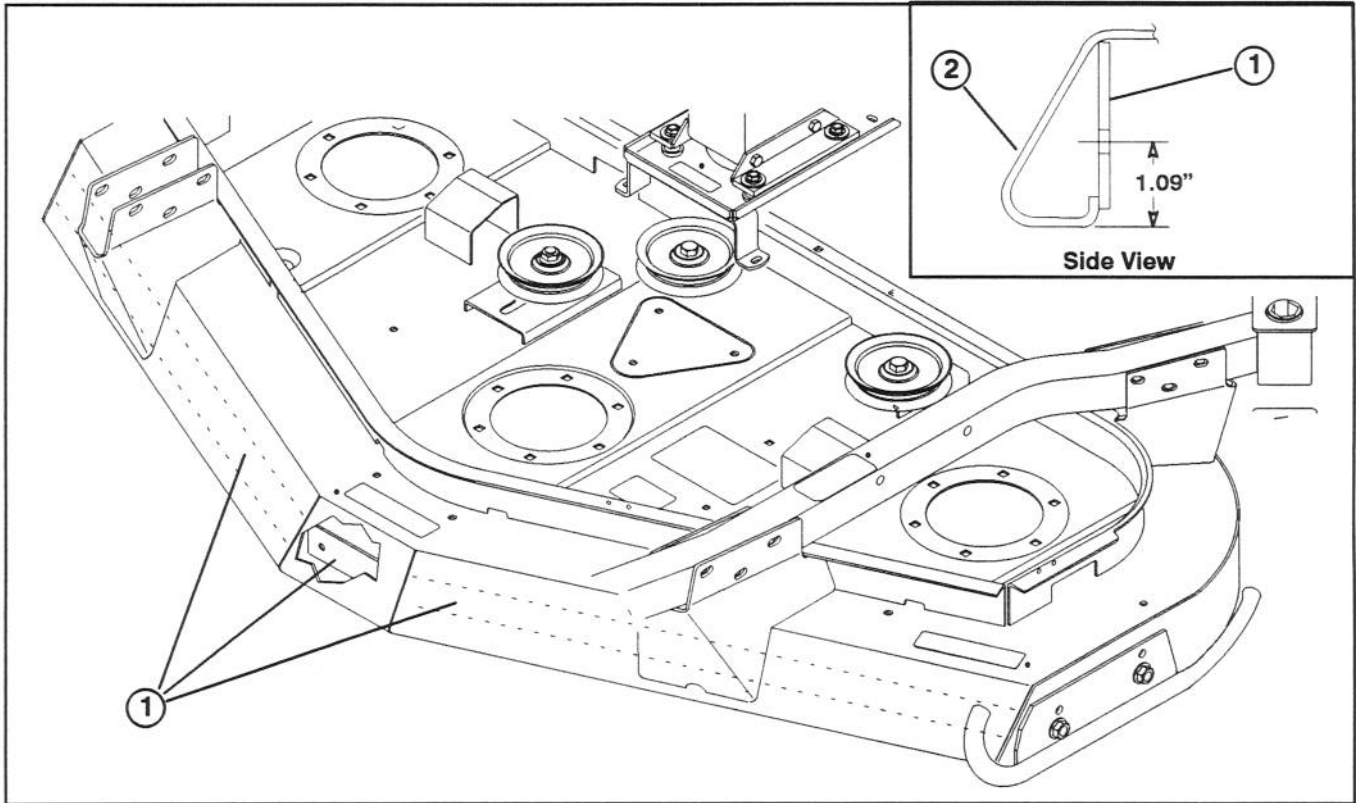

Figure 1
2. On each deck strap, inside front of deck, measure 1.09" from bottom lip of deck and scribe a line the full length of each strap (Fig. 1 & insert).
4. Using baffles as templates, locate, mark and drill (8) .531" dia. holes in deck straps.